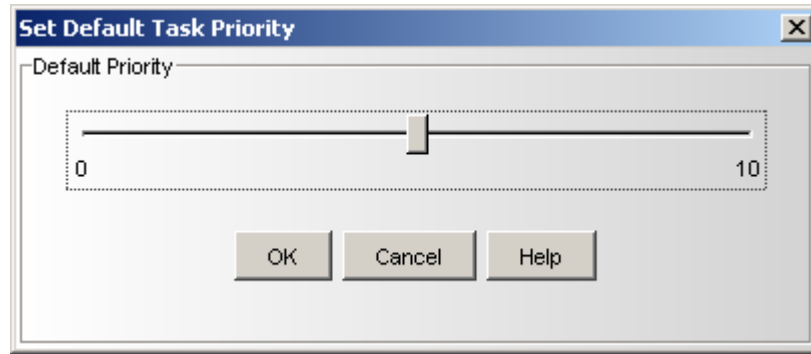

Figure 5-35 Set Default Task Priority Dialog Box
1. On the **File** menu, click **Set Default Task Priority**. The Set Default Task Priority dialog box appears, with the current setting shown (see Figure 5-35).